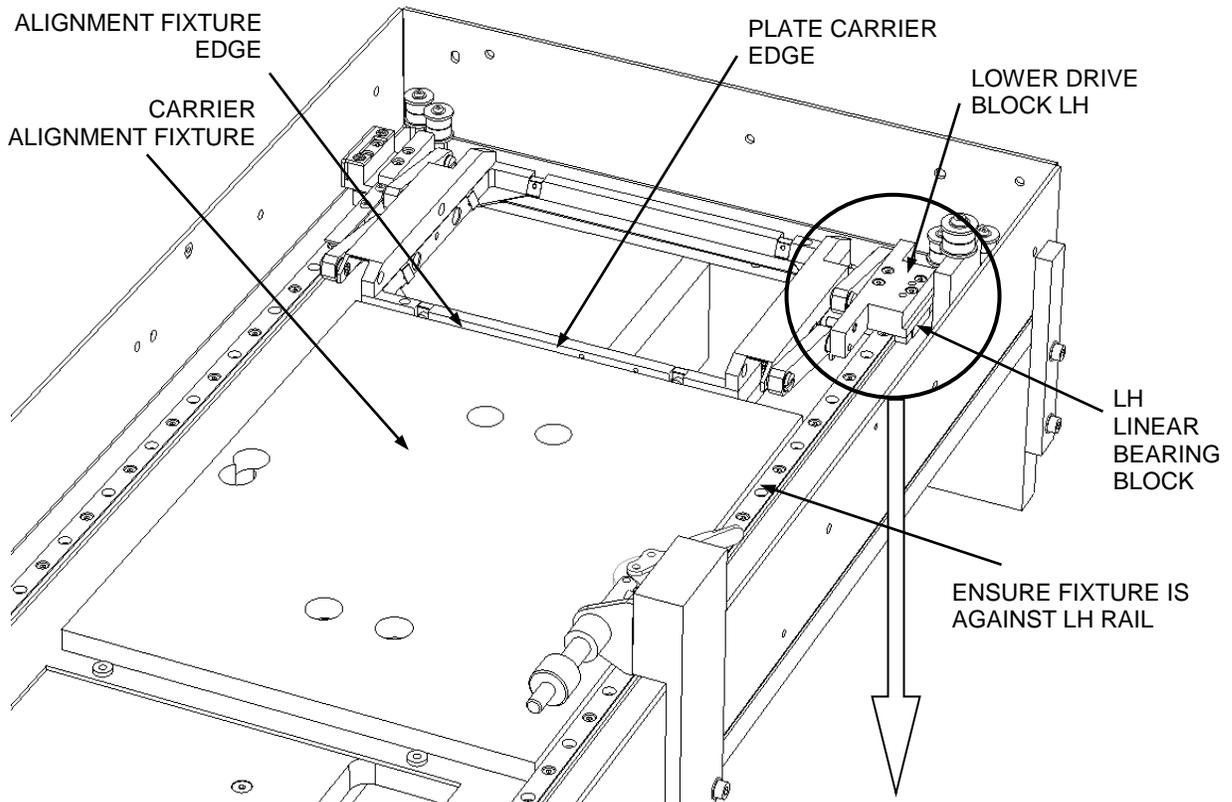
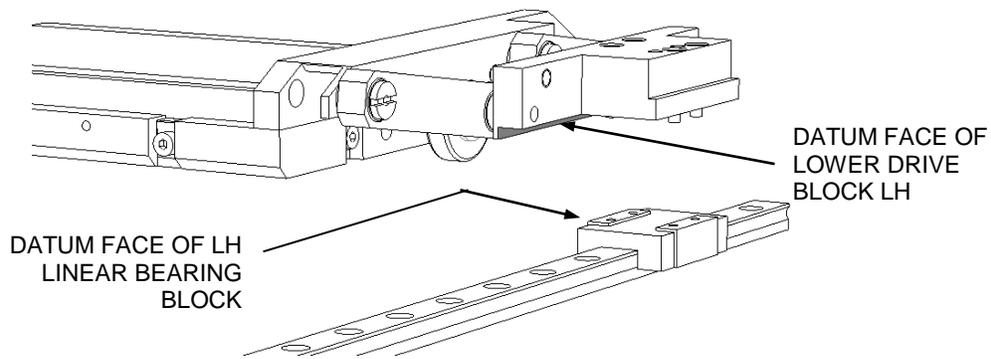

Figure 12-52 Plate Assembly
Figure 12-53: Plate Carrier Drop Down
2. The Plate Carrier assembly is shown in Figure 12-52. Ensure the Plate Carrier assembly slides freely from one end of the rails to the other end and the Plate Carrier pivots freely and drops down under its own weight (Figures 12-53 to 12-55).